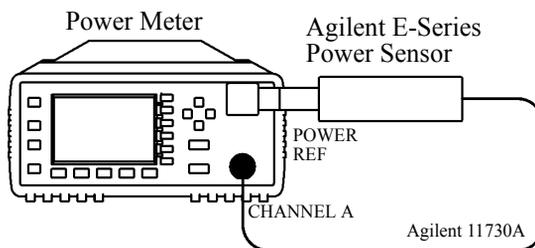

Figure 2-5: Sensor Functional Test Setup
1. Connect the equipment as shown in Figure 2-5.
12. Disconnect the 30 dB attenuator and reconnect as shown in Figure 2-5.